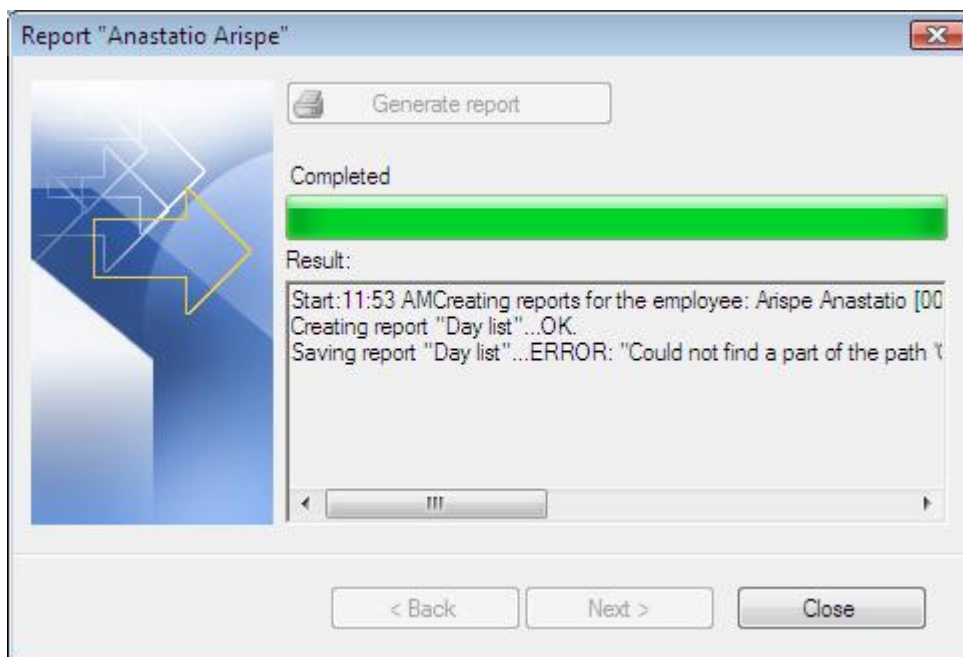

Figure 27. Report generation progress window
Step 4. Displaying a progress window for the process of generating reports (Figure 27). After generation, the summary message is displayed.